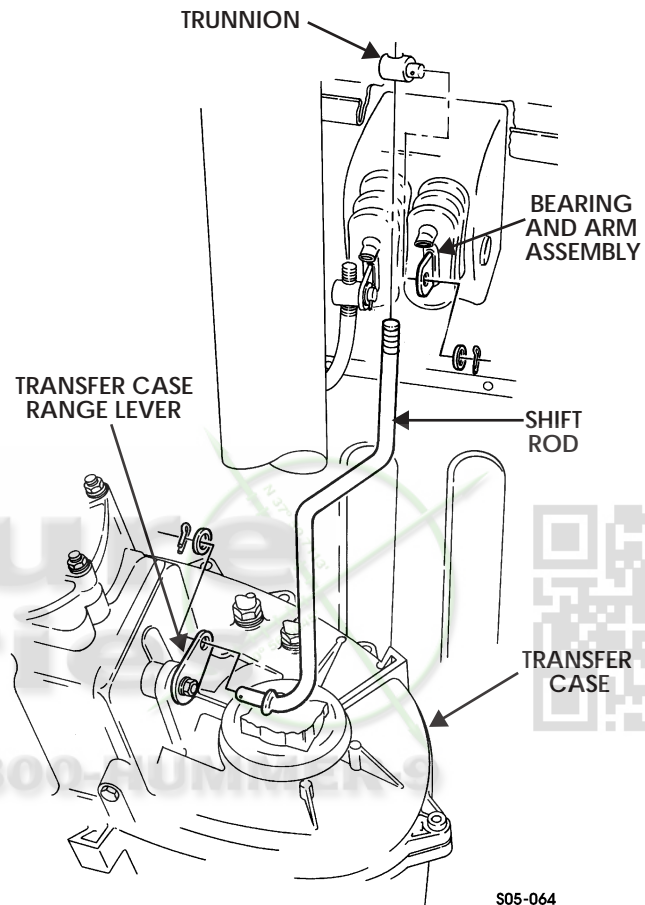

Figure 5-112: Transfer Case Shift Rod
1. Remove cotter pin, washer, and shift rod from transfer case range lever. Discard cotter pin (Figure 5-112).
1. Install trunnion on shift rod (Figure 5-112).
1. Remove cotter pin, washer, and trunnion from bearing and arm assembly (Figure 5-112).
4. Ensure transfer case range lever is in most rearward position (HL) (Figure 5-112).